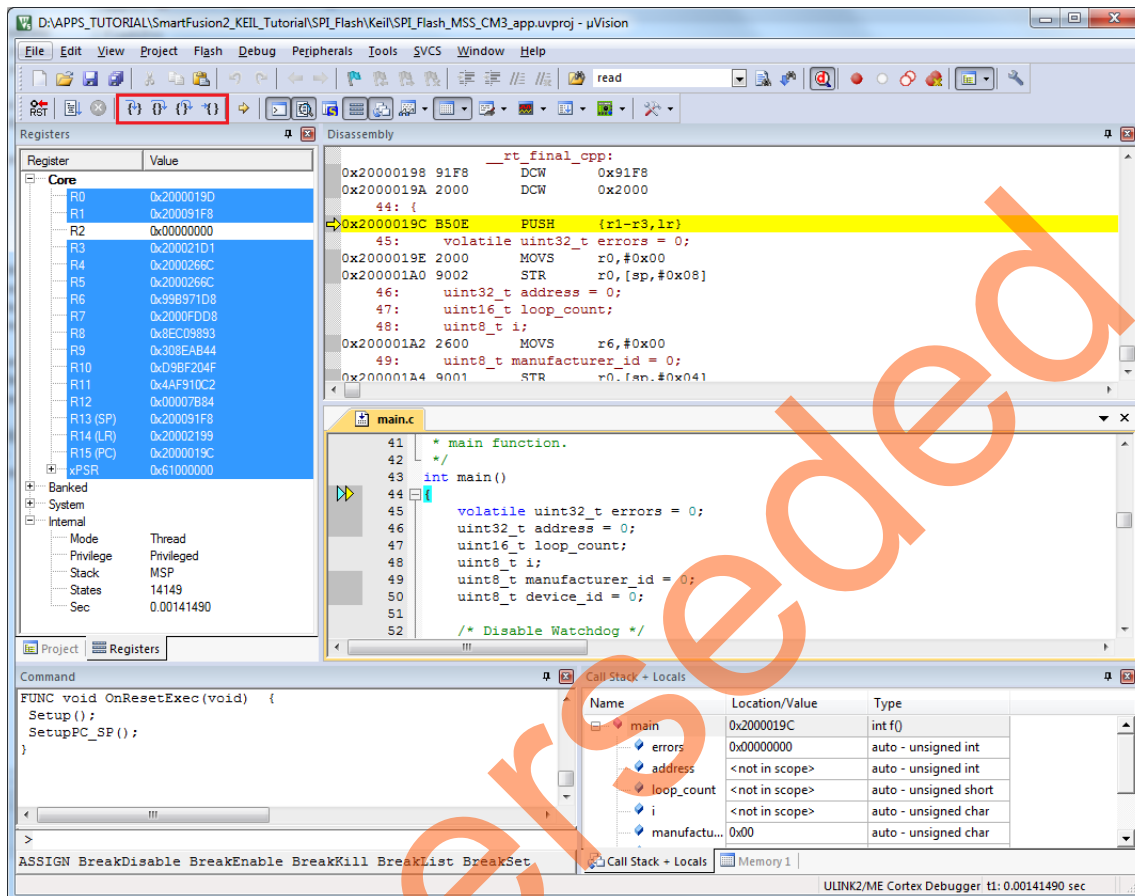

Figure 45 • Keil uVision Workbench - Step Level Debugging
- The Step Level Debugging can be performed before running the application using **Run**. These can be accessed from the Debug menu or on the Keil uVision workbench as shown in Figure 45:
- Source code can be single-stepped by selecting from the Debug menu **Debug > Step, Debug > Step Over, Debug > Step Out** or by selecting the respective options from the Keil uVision workbench as shown in Figure 45. Observe the changes in the source code window and Disassembly section. Performing a step over provides an option for stepping over functions. The entire function is run but there is no need to single-step through each instruction contained in the function.